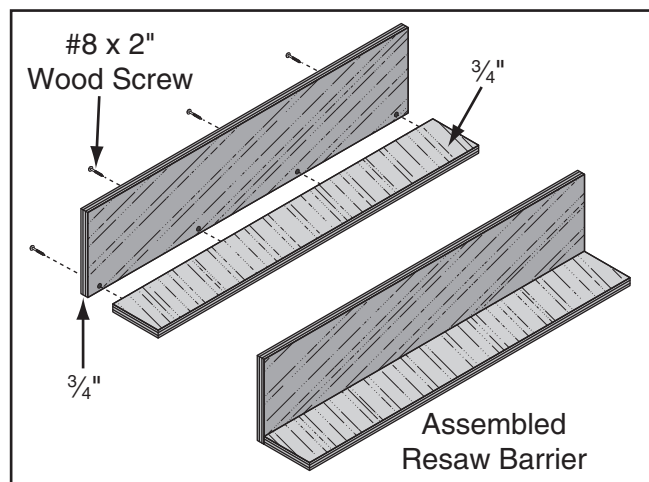

Figure 69. Resaw barrier.
3. Glue end of 3" board, clamp boards at a 90° angle with larger board in vertical position, as shown in **Figure 69**, then fasten together with wood screws.